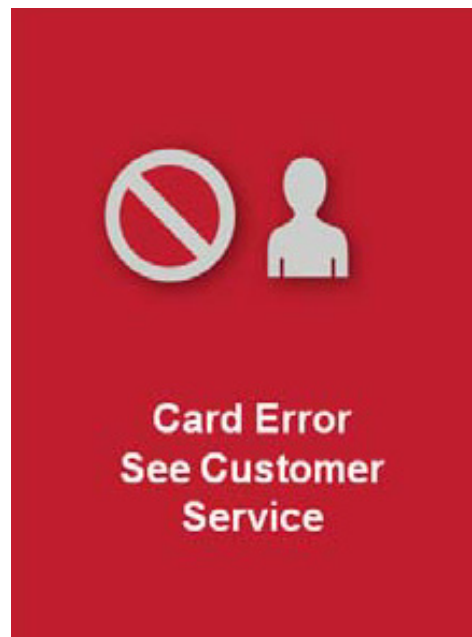

Figure 4-14 Card Error
- 4.2.2 Card Error** When a cardholder taps an invalid WMATA Farecard, the screen in **Figure 4-14** appears.